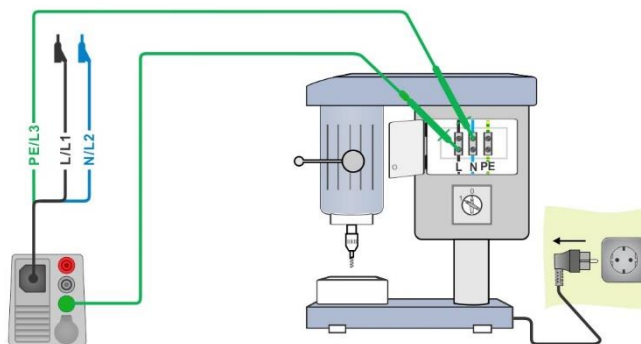

Figure 7.104: Discharging time measurement
- ▶ Connect 3-wire test lead to the instrument and on the DUT, see **Figure 7.104**.
- ▶ Connect DUT to the mains supply and Switch it ON, see **Figure 7.104**.